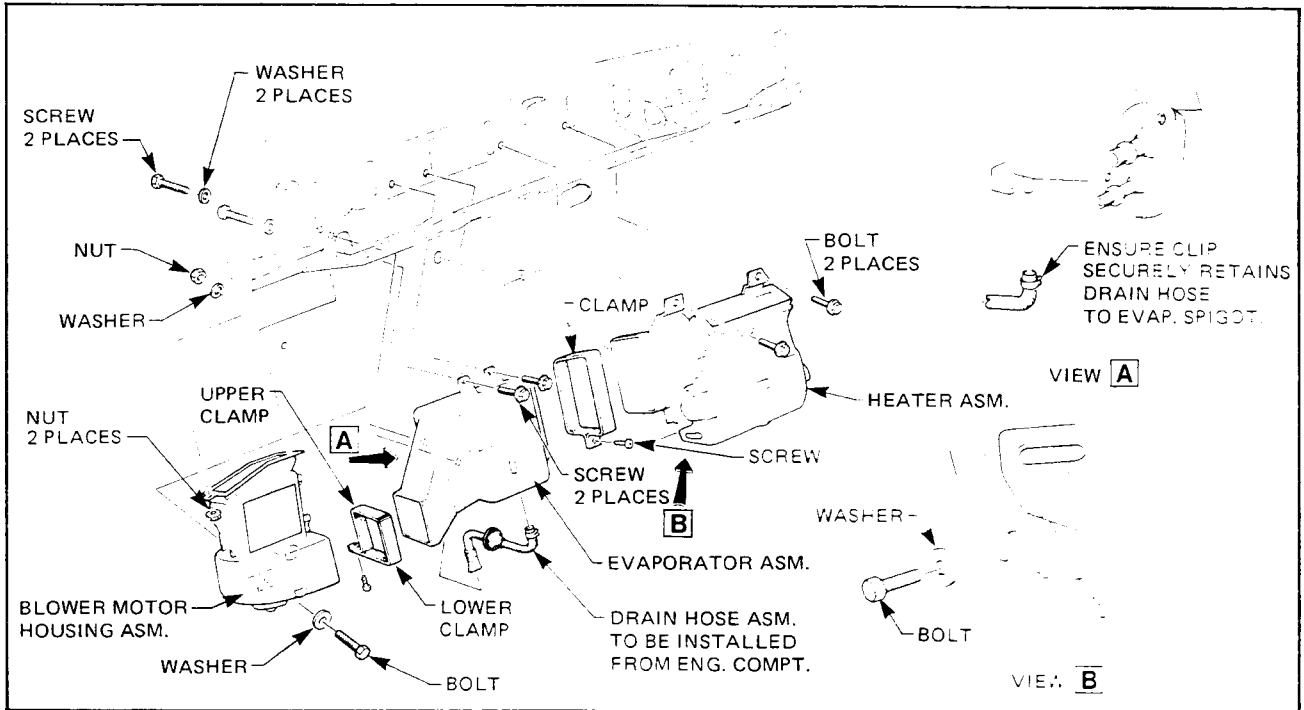

Figure 2B-33
16. From inside the engine compartment, remove the two bolts illustrated in Fig. 2B-33, securing the front of the evaporator assembly to the lower dash panel.